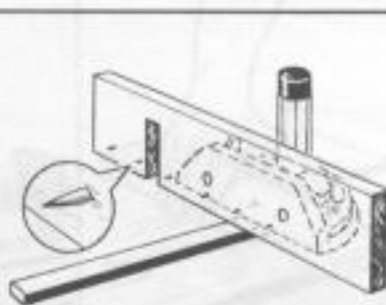

Figure 25
6. An auxiliary wood extension bolted to the miter gauge greatly improves the gauge as a support. (See figure 25.) If fitted with pin points (phonograph needles are excellent) or sandpaper, the extension will help prevent side creep of the work.